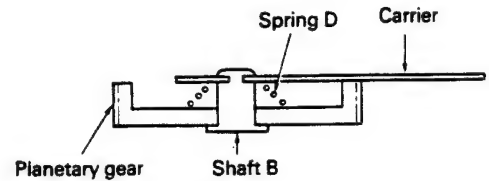

Fig. 15
1. Turning on the eject switch reverses the capstan motor. As shown in Fig. 15, spring "D" places slight friction on the planetary gear which causes it to engage with the inside-cog sun gear. The cassette tape is ejected following an operation opposite to the loading operation.